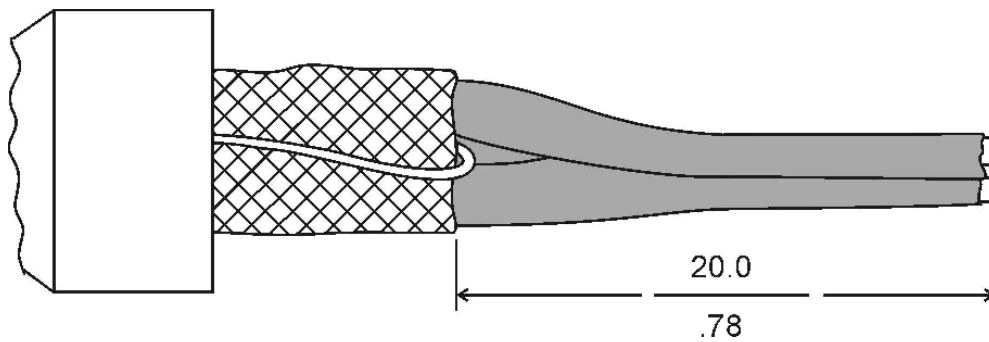

FIGURE 9
F. Reduce the length of the shielded pairs. (Refer to figure 9)